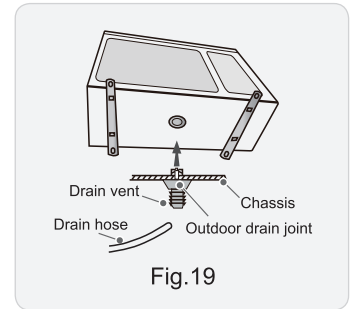

Fig. 19
- (1) Connect the outdoor drain joint into the hole on the chassis.
- (2) Connect the drain hose into the drain vent. (As show in Fig.19)